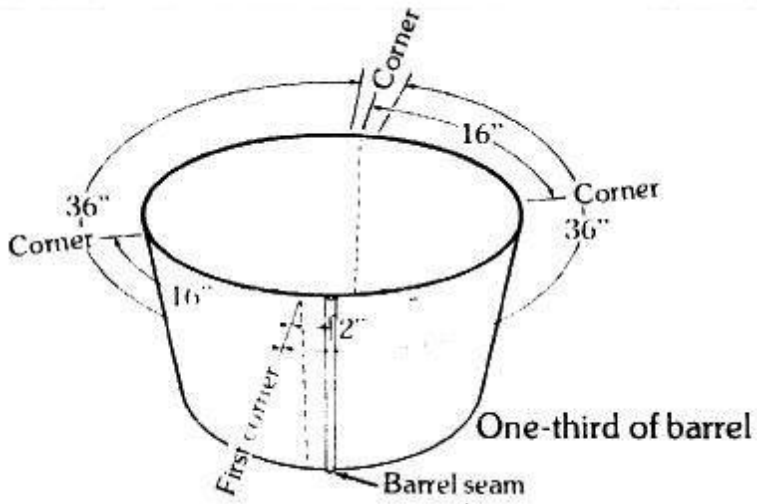

Figure 13.9 - Marking the corners of the one-third barrel to form into a rectangle.
4. Form the stove body. The one-third barrel will be your stove body. Hammer off the rough edges and file or cut away uneven or jagged projections. Form into a rectangle as shown in Figure 13.9: Mark a line parallel to the barrel seam and 2 inches away from it. This is your first corner. From this line measure clockwise around the drum 36 inches and make a mark. Then measure 36 inches the other way from your first corner and make a second mark. A point centered between these two marks establishes the location of the diagonally opposite corner; draw the line. Measure 16 inches around the drum from one of these corners, and then 16 inches in the same direction from the other to locate the remaining two corners. Draw the lines.